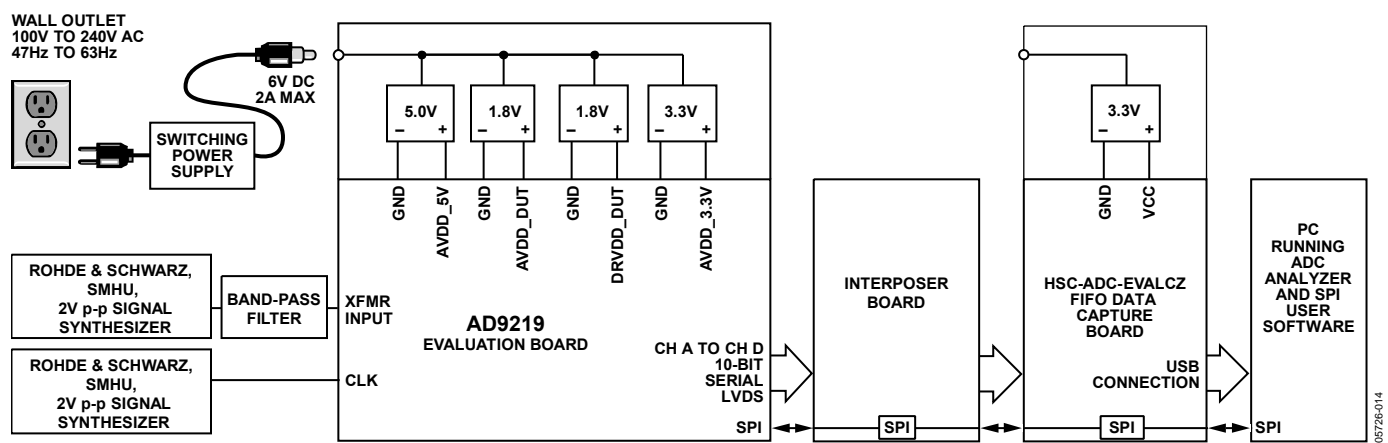
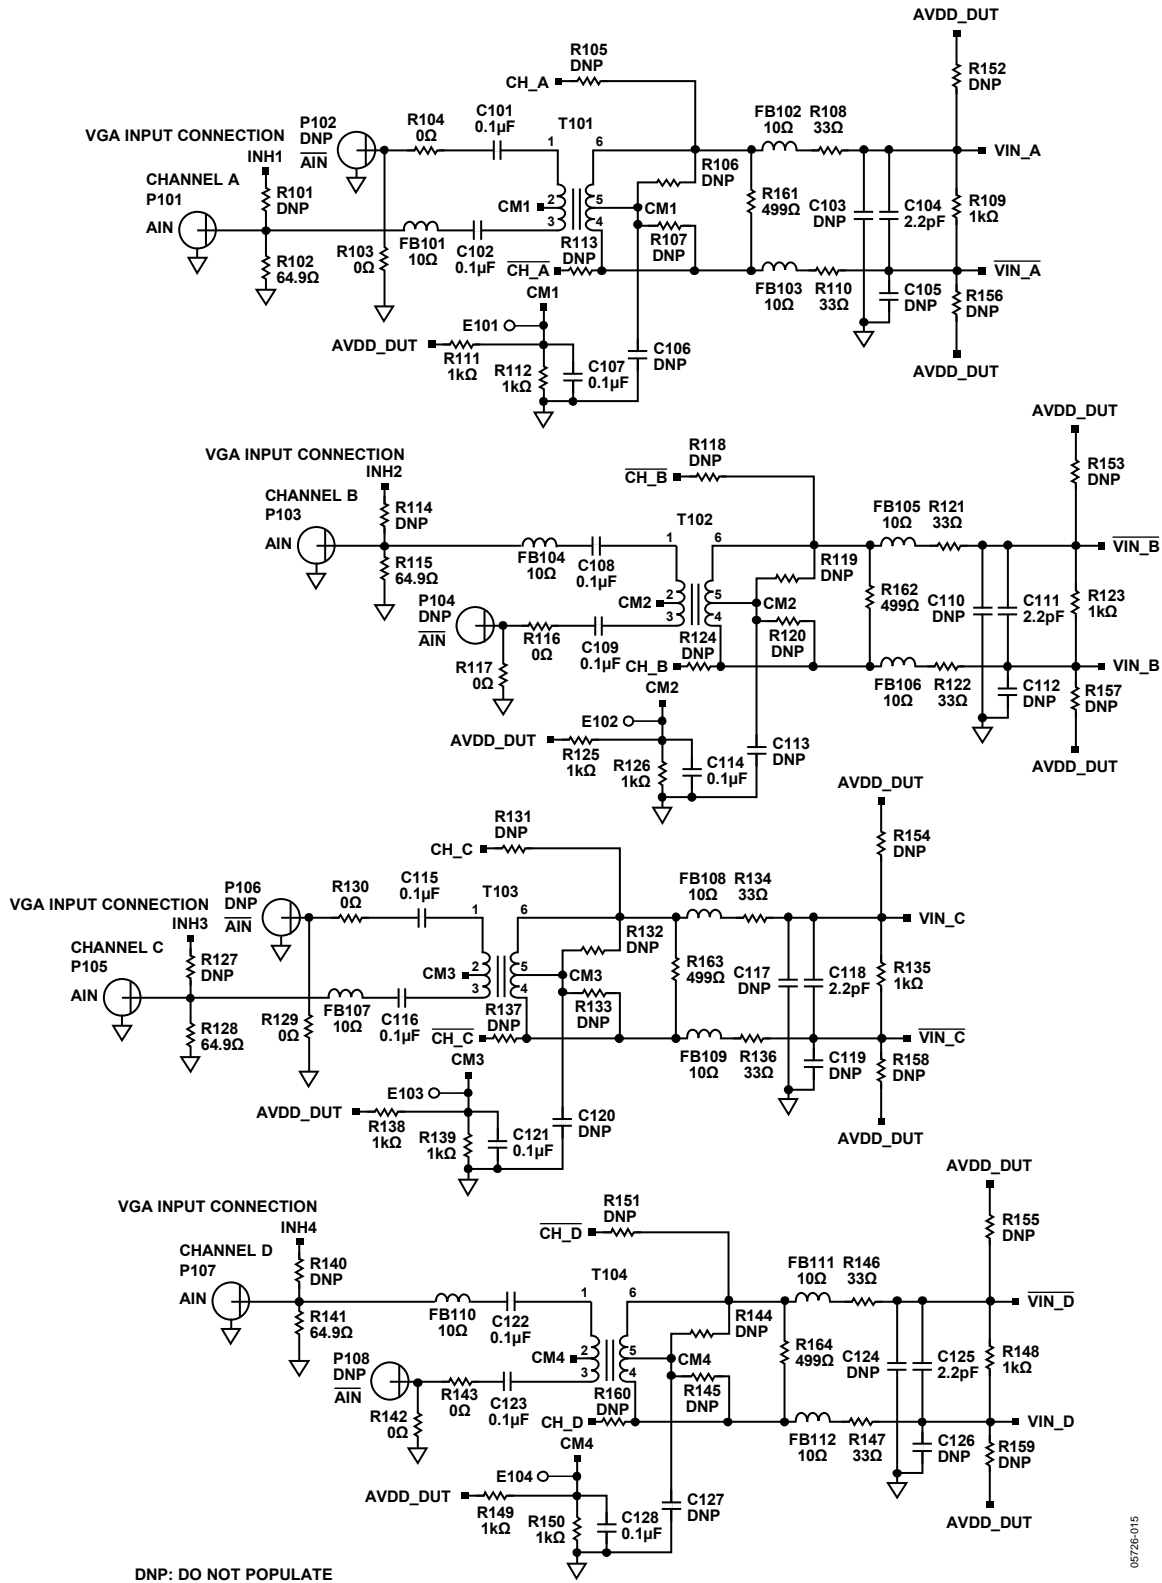
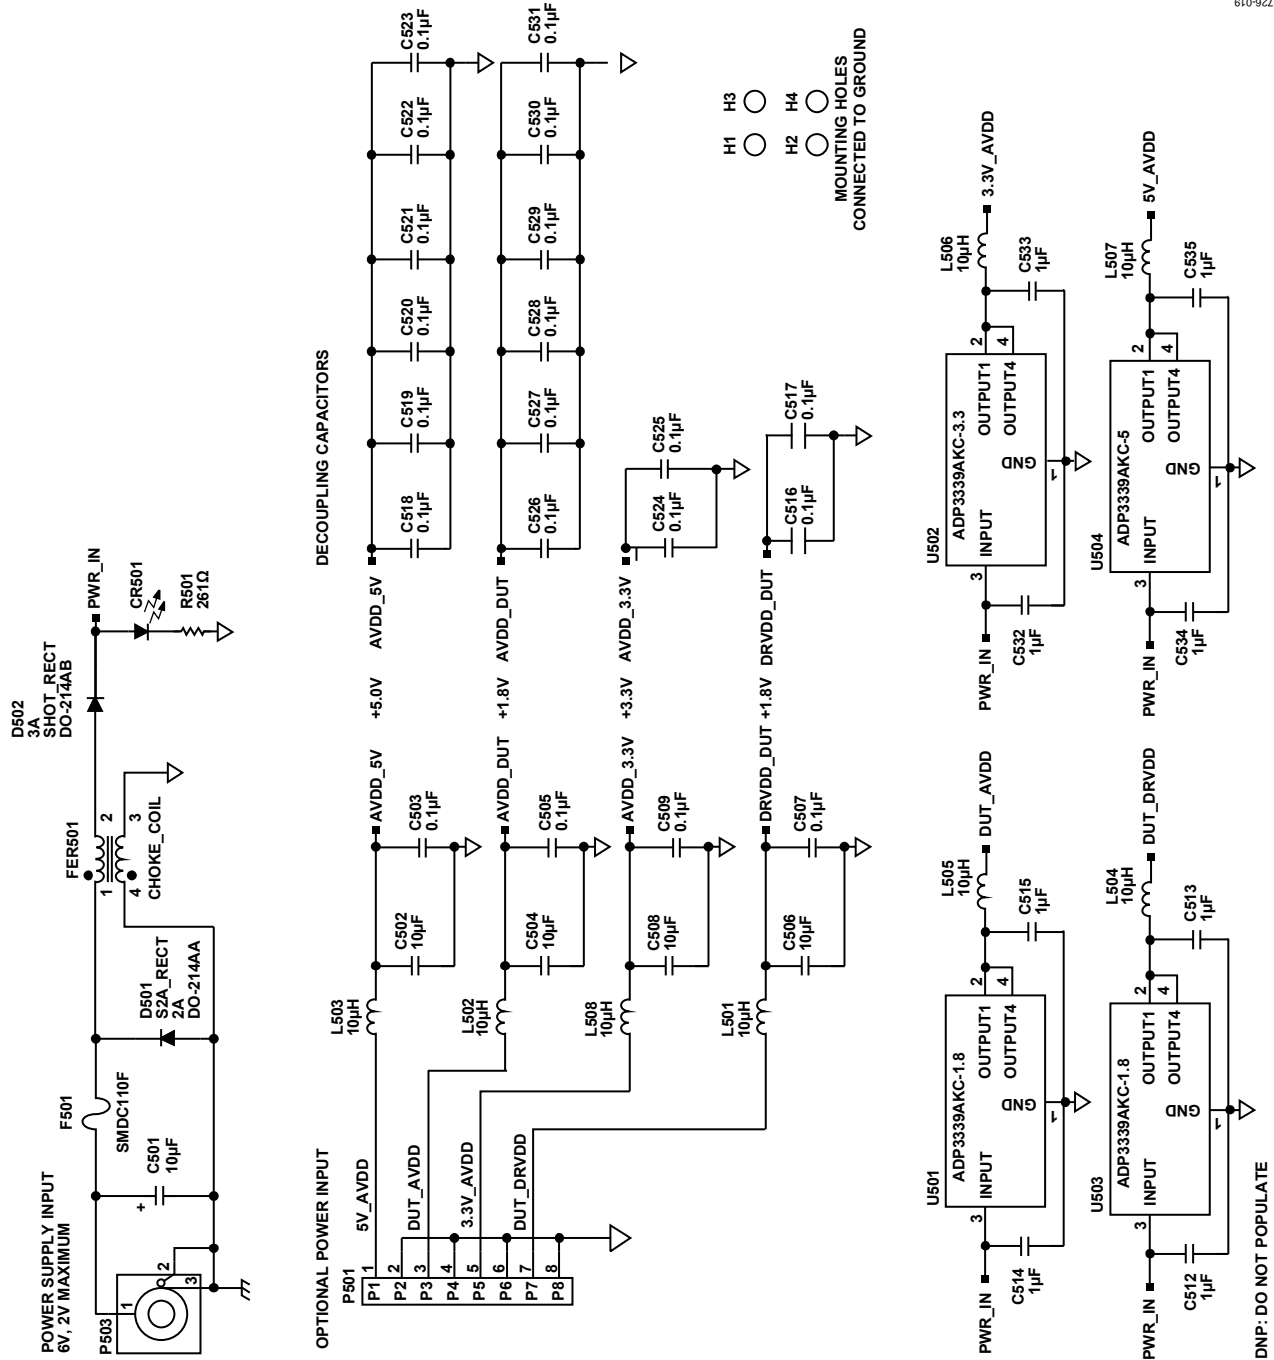
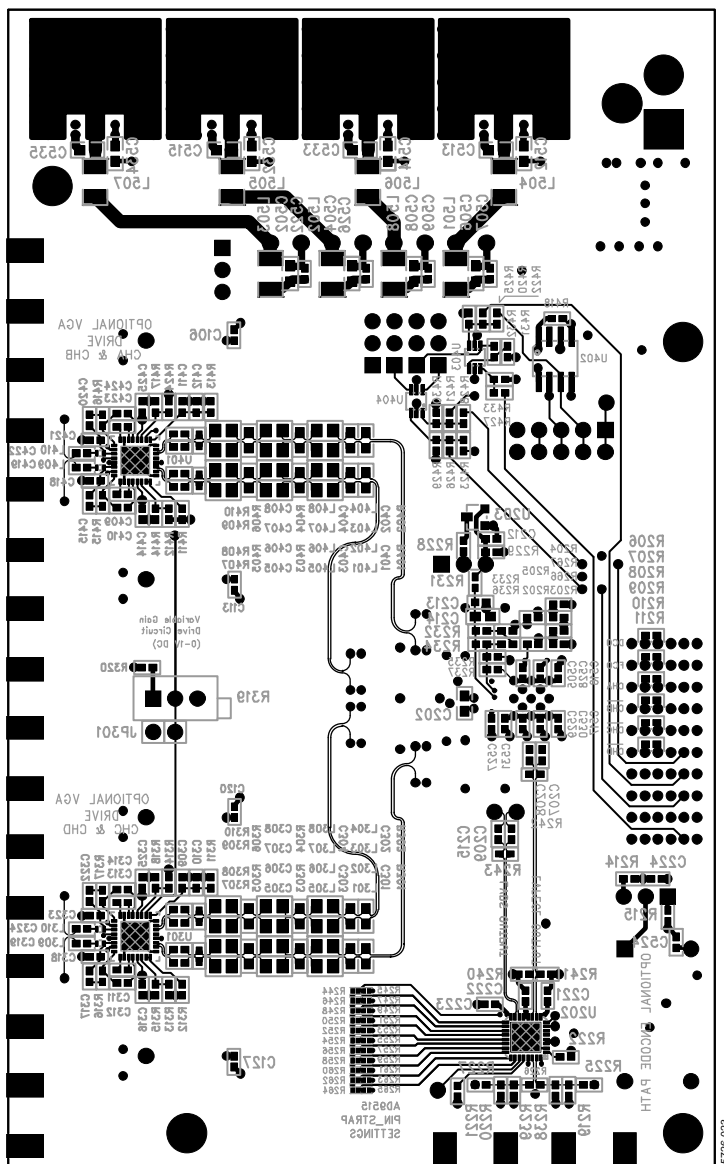

Figure 71. Evaluation Board Connection
Figure 73. Evaluation Board Schematic, DUT Analog Inputs
Figure 77. Evaluation Board Schematic, Power Supply Inputs
Figure 81. Evaluation Board Layout, Secondary Side (Mirrored Image)
The AD9219 evaluation board provides all of the support circuitry required to operate the ADC in its various modes and configurations. The converter can be driven differentially using a transformer (default) or an AD8332 driver. The ADC can also be driven in a single-ended fashion. Separate power pins are provided to isolate the DUT from the drive circuitry of the AD8332. Each input configuration can be selected by changing the connection of various jumpers (see Figure 73 to Figure 77). Figure 71 shows the typical bench characterization setup used to evaluate the ac performance of the AD9219. It is critical that the signal sources used for the analog input and clock have very low phase noise (<1 ps rms jitter) to realize the optimum performance of the converter. Proper filtering of the analog input signal to remove harmonics and lower the integrated or broadband noise at the input is also necessary to achieve the specified noise performance.
See Figure 73 to Figure 81 for the complete schematics and layout diagrams demonstrating the routing and grounding techniques that should be applied at the system level.
- **D + x, D - x:** If an alternative data capture method to the setup shown in Figure 73 is used, optional receiver terminations, R206 to R211, can be installed next to the high speed back-plane connector.